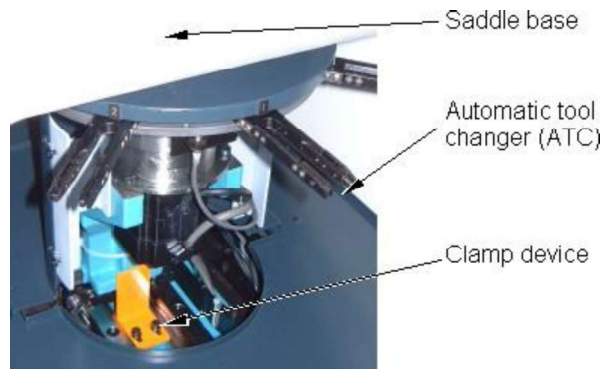

Fig. 2.1-3 ATC clamp
- (5) For the machine with optional ATC, clamp as shown in **Fig.2.1-3**.